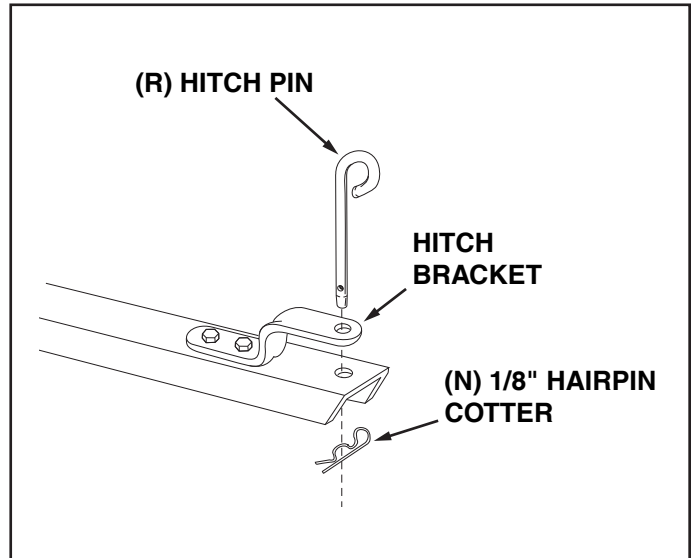

FIGURE 11
18. Assemble the hitch pin (R) through the tongue and hitch bracket and secure it with the 1/8" hairpin cotter (N). See figure 11.